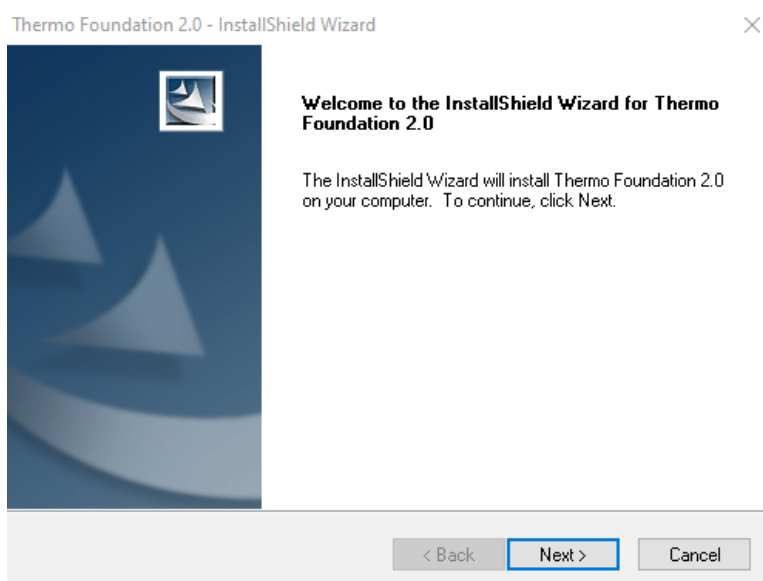

Figure 4-5. Installation Wizard Thermo Foundation 2.0
8. In the **Welcome to the InstallShield Wizard for Thermo Foundation 2.0** dialog, click **Next**, see Figure 4-5.